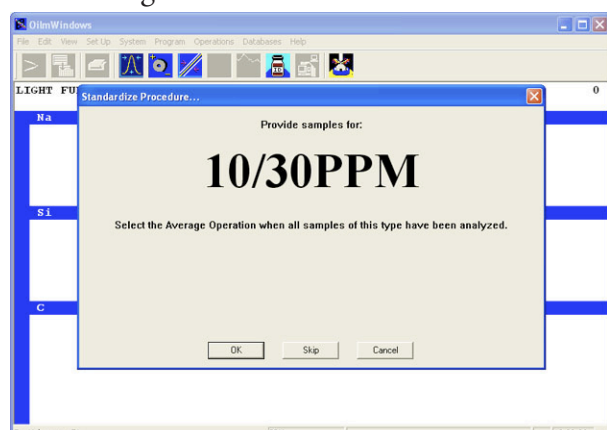

Figure 2-10, Third Standardization Sample (Standard 3)
10. After making as many measurements as necessary to obtain a good average, press function key 6 (F6), click the average icon, or select Operations/Average from the pull down menu. The average of each element will be calculated and displayed below each element's column of measurements. To make a printout of the measurements and their average, press the print icon. Automatically, the next dialog will appear providing instructions to make measurement of the 10/30 ppm standard as shown in Figure 2-10.